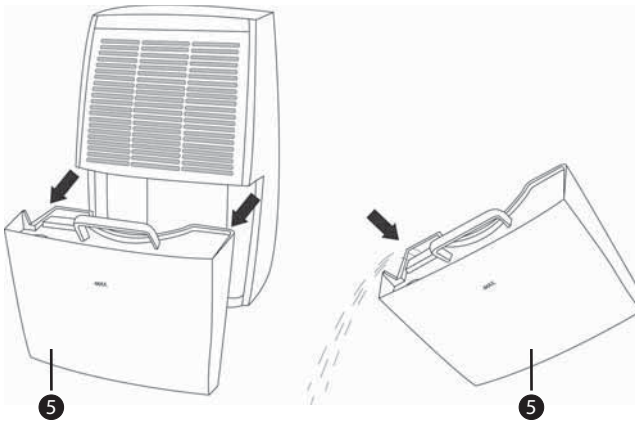

Fig. 1
- ◆ To empty the water tank **5**, pull it out a little to the left and the right and then hold it by the carrying handle (see Figure 1).